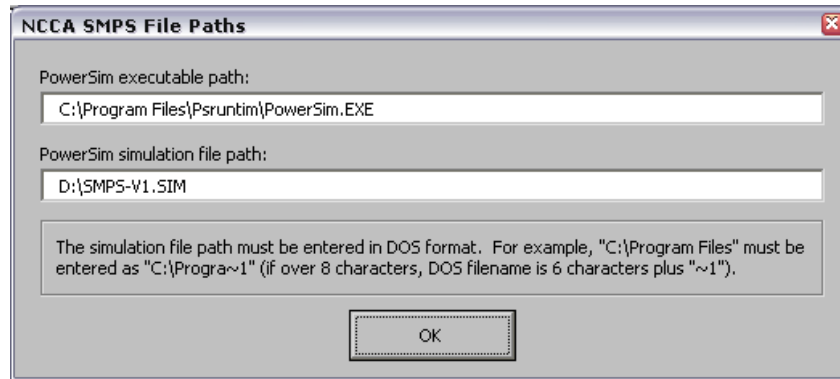

Figure 2. SMPS File Paths dialog.
- o Click on Paths and you will be presented with the SMPS File Paths dialog, shown in Figure 2.
- o Enter the path to the Powersim executable file in the top text box. The path shown in Figure 2, "C:\Program Files\Psruntim\ Powersim.EXE," is the default directory for the Powersim Runtime version. In the second text box enter the path to the software maintenance simulation file SMPS-V1.SIM. The path shown in Figure 2, "D:\SMPS-V1.SIM," is the path to the file's location on the SMPS disc (where D is the CD drive letter). SMPS may be run directly from the SMPS disc. Click OK after entering the file paths to update the path information.